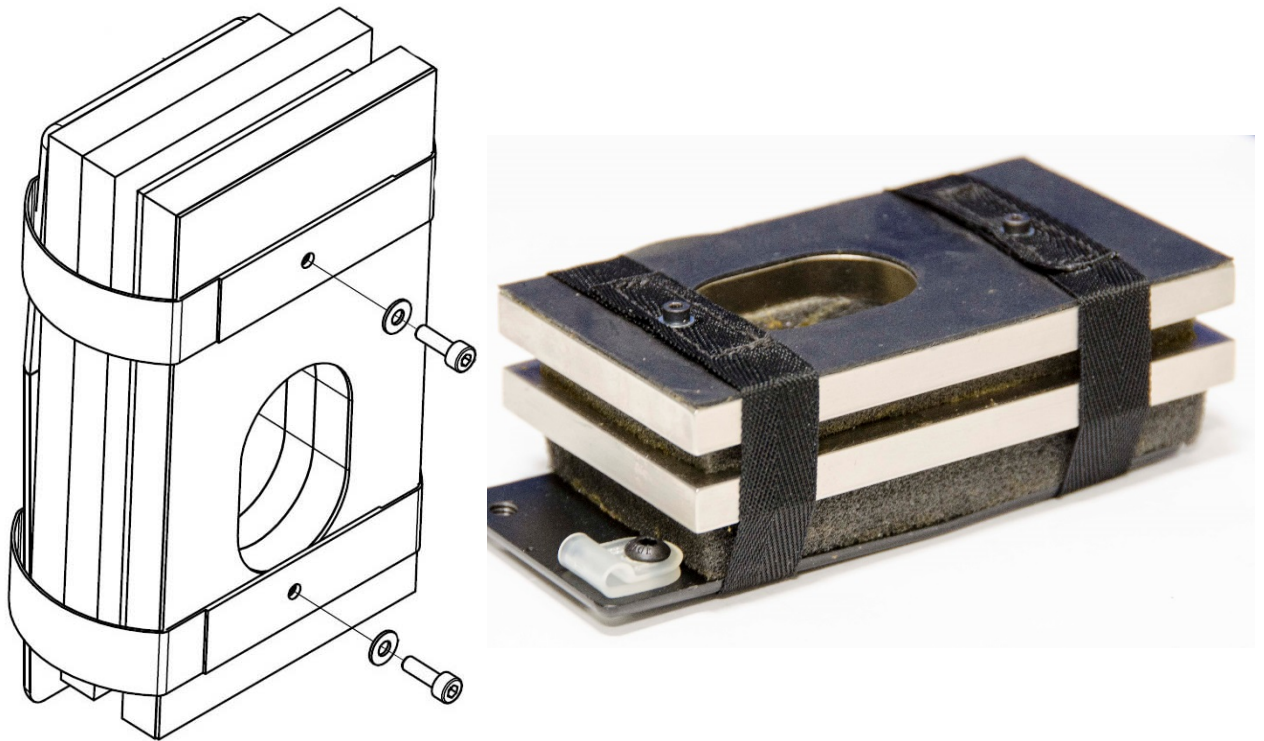

Figure 6-45. Attach sternum straps to the mid-sternum bonding assembly
6.2.2.38 Assemble the two Sternum Mass Straps (472-3431) to the Mid-Sternum Bonding Assembly (472-3410) using M2.5 x0.45 x 8 SHCS and associated M2.5 plain zinc flat washers (Figure 6-45). There should be no pre-compression of the foams once assembly is complete.